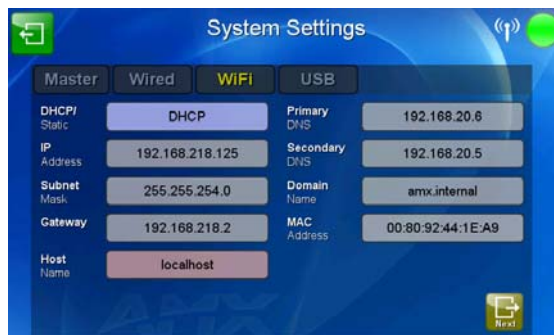

FIG. 25 System Settings page - WiFi tab
2. Select the *WiFi* tab (FIG. 25).
- From the *Protected Setup* page, press the **Network** button to open the *System Settings* page. Wireless communication is set within the *WiFi* tab of this page (FIG. 25).